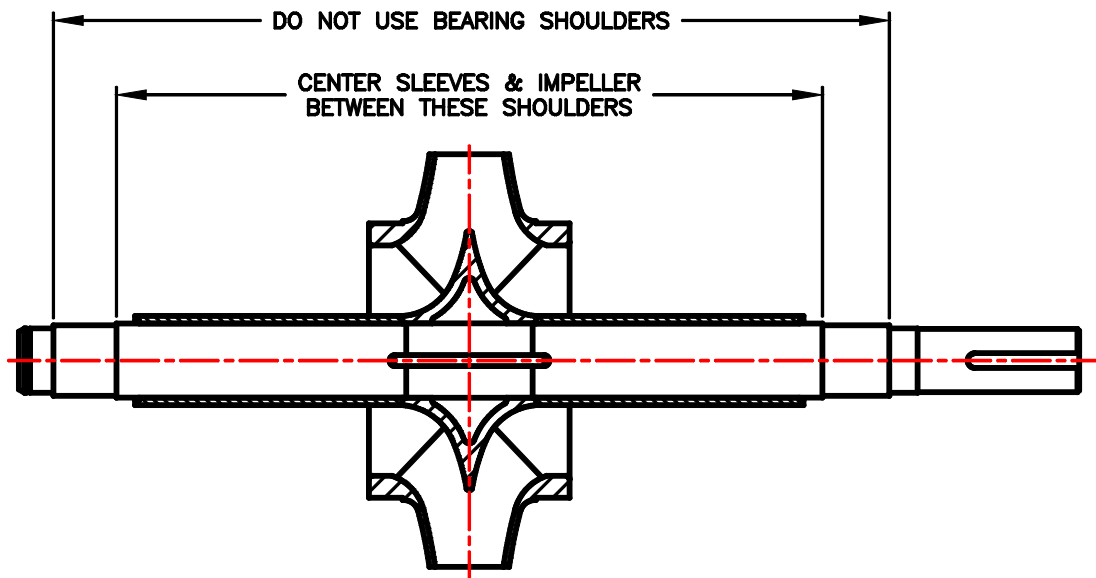

FIGURE 5
- C. Install the impeller key (102) in the shaft (4) and slide the impeller (1) over the key, centering it between the shaft shoulders as shown in Figure 5.
CAUTION: THE LINEAR POSITION OF THE IMPELLER MUST BE OBTAINED AND THE SHAFT SLEEVES MUST BE PROPERLY LOCATED. REFER TO FIGURE 5 ON THE PREVIOUS PAGE OF THIS MANUAL. IF PROVIDED, THE SHAFT SLEEVE NUTS MUST BE TIGHTENED WITHIN 10 MINUTES AFTER THE LOCTITE IS APPLIED. TO ACCOMPLISH LINEAR POSITIONING OF THE IMPELLER, LEAVE AN EQUAL AMOUNT OF SHAFT OR SHAFT THREADS EXPOSED ON EACH END OF THE SHAFT AFTER ASSEMBLY IS COMPLETED. ALLOW 4 HOURS FOR THE LOCTITE TO CURE BEFORE COMPLETING THE PUMP ASSEMBLY.
Install the impeller key in the shaft and coat the impeller area on the shaft with Loctite 601. Press the impeller onto the shaft, centering it between the shoulders as shown in Figure 5.